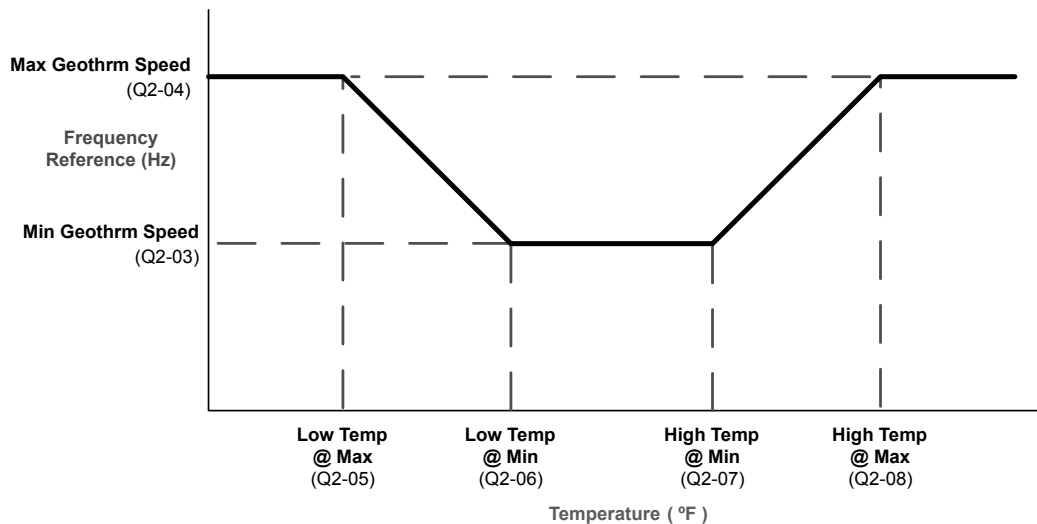

Figure 4.7 Normal Temperature Regulation
7. Set the pump speed-temperature characteristics in Q2-03 to Q2-08. This allows the drive to modulate the pump speed based on the analog input temperature feedback of the water. This will attempt to regulate the water temperature between the Q2-06 and Q2-07 settings. **Figure 4.7** shows normal operation.